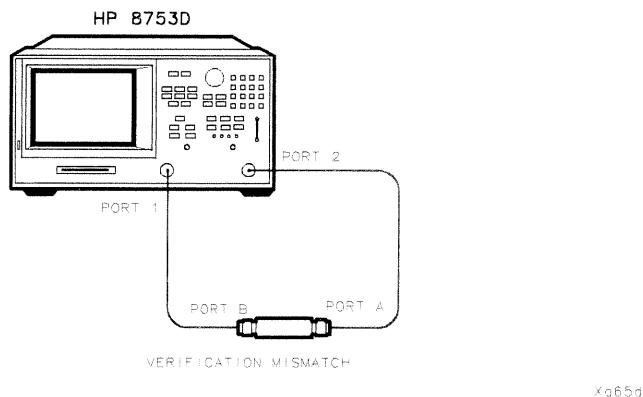

Figure 2-7. Mismatch Device Verification Setup
38. When the analyzer finishes all the measurements, connect the mismatch verification device, as shown in Figure 2-7. Notice that Port B is now connected to reference test port 1.